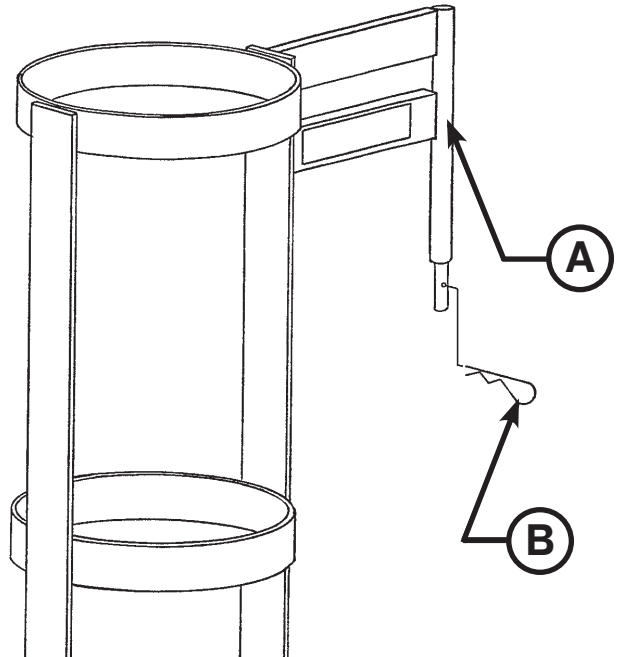

Figure 49: Upright Oxygen Bottle Holder
To install the upright oxygen bottle holder, insert the support bar (A) into the I.V. socket at any of the four litter corners. Insert the cotter pin (B) through the hole in the support bar to hold the bottle holder in place as shown in Figure 49.